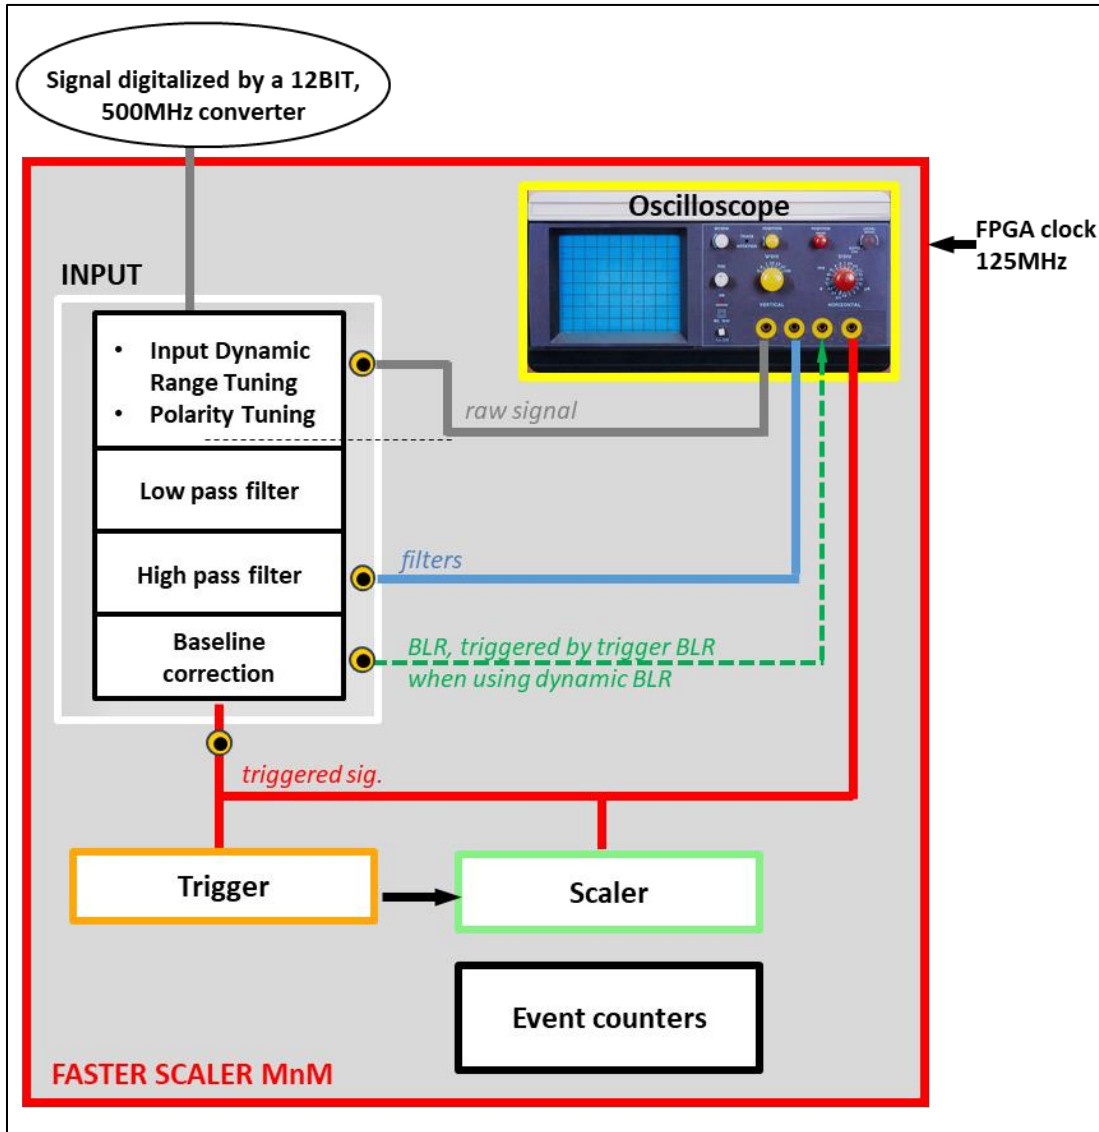
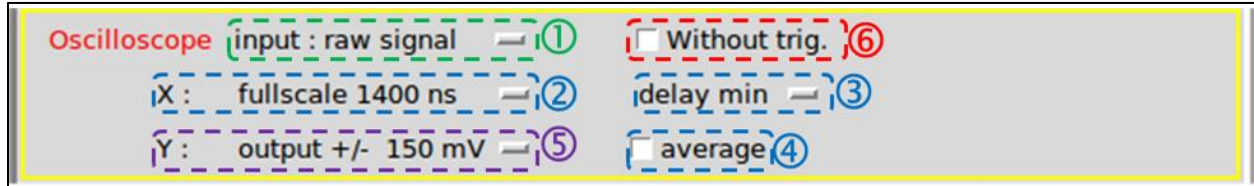
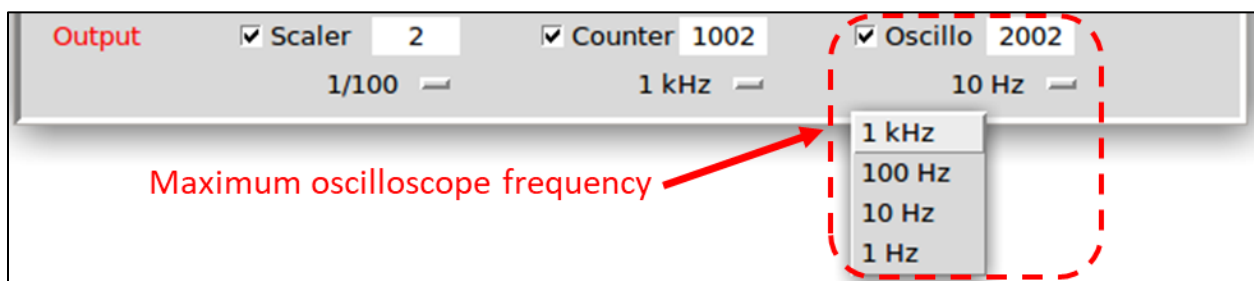

Figure 5: Diagram of FASTER SCALER MnM. The border colour of each box is as the one of the MnM interface.
Figure 6: Oscilloscope module.
Figure 7: Maximum frequency of the oscilloscope frame definition
The interface includes several tuning modules, synthetically described in Table 1 and Figure 5. Each module has some parameters that are adjustable by the user to achieve the best performance.
The signal, which is displayed by the oscilloscope module, is defined by parameter ① (Figure 6). Each ● on Figure 5 indicates the location of an Oscilloscope module input. The use case of this signal is described in Table 2.
If "without trig" is checked in ⑥ (Figure 6), Oscilloscope module does not use the Trigger module or BLR Trigger to start storing an oscilloscope frame, but it uses a clock, whose frequency is defined in the "Data output" module (cf. Figure 7).
If “without trig” is unchecked in ⑥ (Figure 6), the Oscilloscope module is woken either by the BLR trigger if the displayed signal is “trigger BLR”, otherwise by the Trigger module. In all case, the maximum oscilloscope frequency is defined by the Data output module.